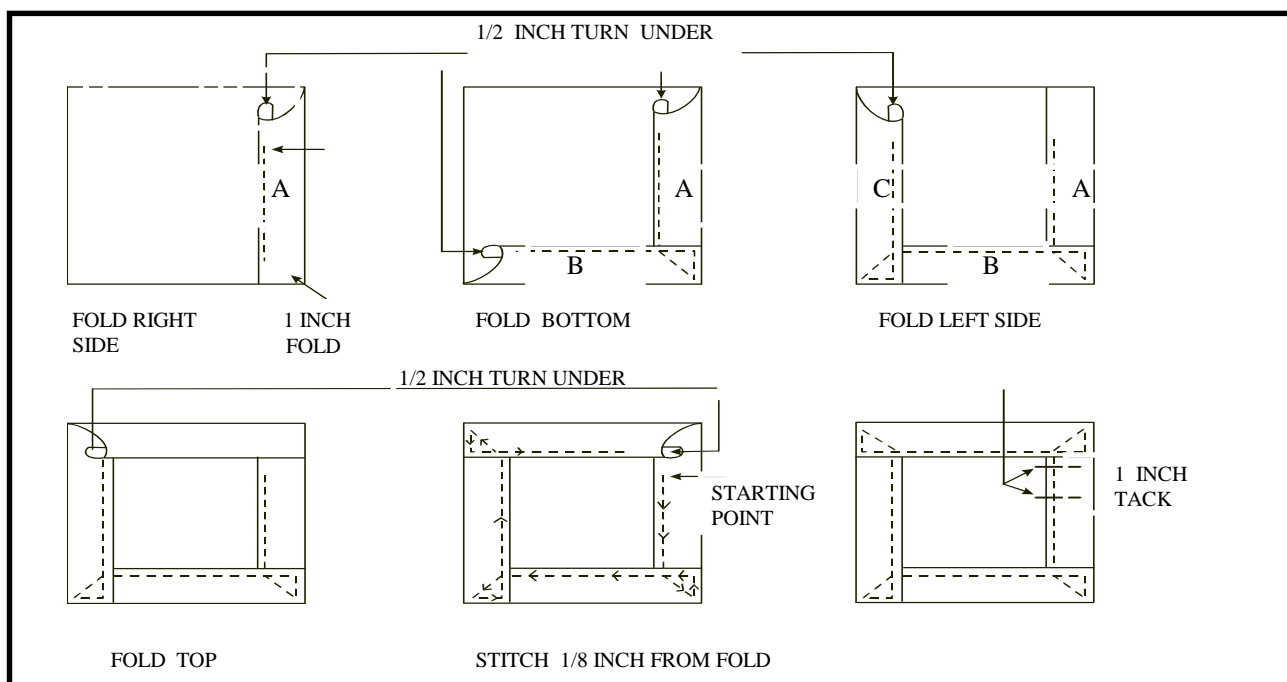

Figure 8-5. Four-sided hem
(3) **Four-Sided Hem.** A four-sided hem (Figure 8-5) is used to finish a rectangular piece of canvas completely on all sides. To make a four-sided hem--